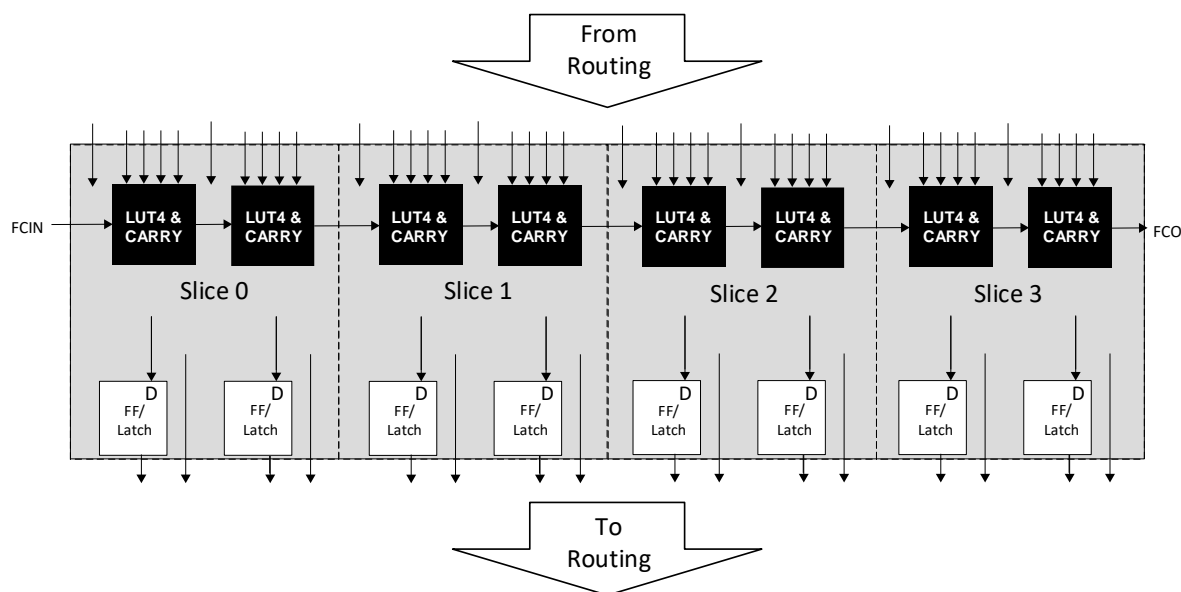

Figure 2.3. PFU Block Diagram
The core of the MachXO3L/LF device consists of PFU blocks, which can be programmed to perform logic, arithmetic, distributed RAM and distributed ROM functions. Each PFU block consists of four interconnected slices numbered 0 to 3 as shown in Figure 2.3. Each slice contains two LUTs and two registers. There are 53 inputs and 25 outputs associated with each PFU block.
1. See Figure 2.3 for connection details.